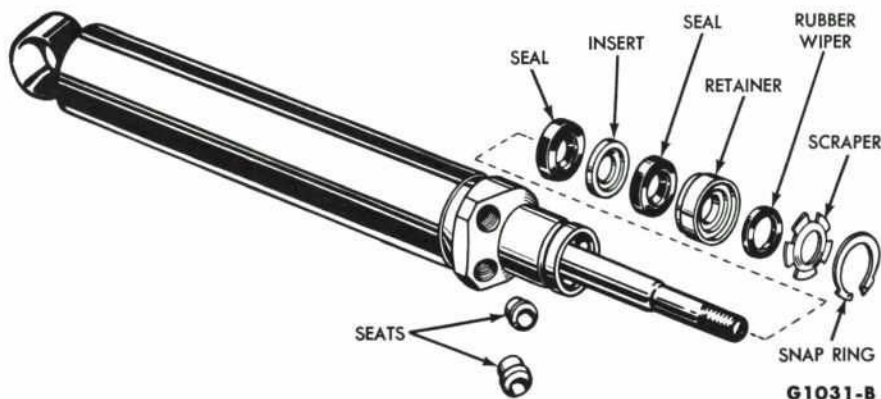
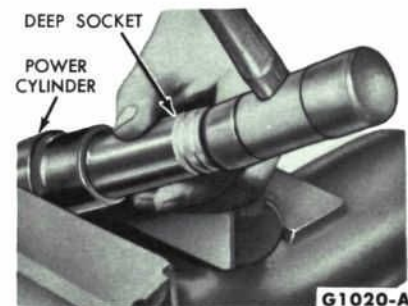

FIG. 38—Power Steering Cylinder
FIG. 39—Power Cylinder Seal Installation
1. Remove the lines from between the power steering valve and the power cylinder. Move the front wheels to the left and right several times to force all the fluid from the power cylinder. Remove the nut, washer, and insulator (Fig. 38) from the outer end of the piston rod. Do not remove the rod from the idler arm bracket at this time.
2. Coat the new seals with lubricant C1AZ-19582-A and place the parts (Fig. 38) on the piston rod which has been coated with the same lubricant. Push the rod in all the way, and install the parts in the cylinder with a deep socket slightly smaller than the cylinder opening (Fig. 39). In-